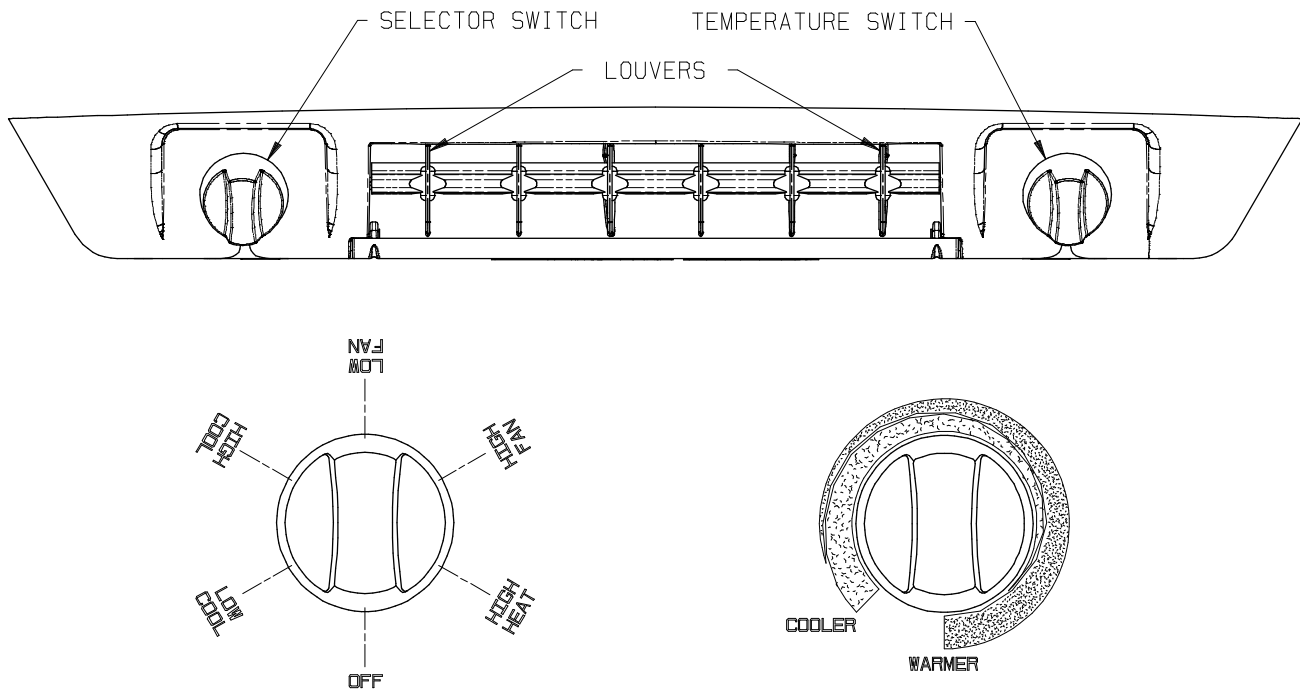

FIGURE 1
A. The Selector Switch – The selector switch determines which mode of operation the heat pump will be in. By rotating the selector switch, the operator can obtain any system function desired. System functions vary depending upon options of both the roof top unit and ceiling assembly. Figure 1 shows selector switch location and lists all available functions by model.
- B. The Thermostat (temperature control) – The thermostat regulates the “ON” and “OFF” temperature setting at which the compressor will operate (See Figure 1).
I. For Cooling Operation (Refer to Figure 1, page 3).
IV. For Heating Operation (Refer to Figure 1, page 3).
V. For Air Circulation Only (Refer to Figure 1, page 3).